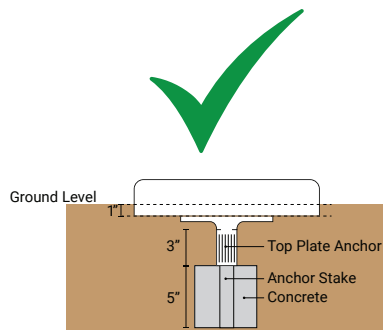

FIGURE 3
5. The bottom of the base must sit 1" below ground level. Figure 3.